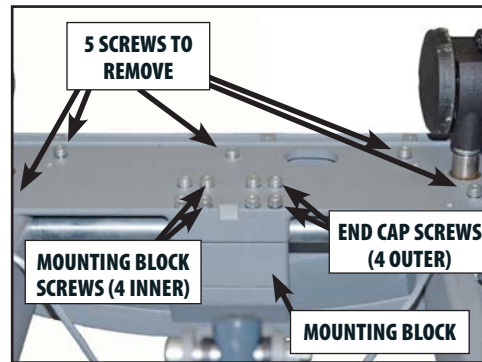

FIGURE 6.50
4. Lift the Harness Connector for the end Elevation Pedals out of the hole in the End Cap Bottom. Press the tab of the Four-Pin Connector to disconnect the Elevation Foot Pedals from the Table Harness. Refer to **Figure 6.50**.
6. Using a 5 mm Hex Wrench, remove the five Screws on the top of the End Cap Base leaving the eight center Screws in place. Refer to **Figure 6.50**.
7. Loosen the four outside center Screws. These Screws secure the End Cap Base by going through the mounting block into the End Cap. Refer to **Figure 6.50**.